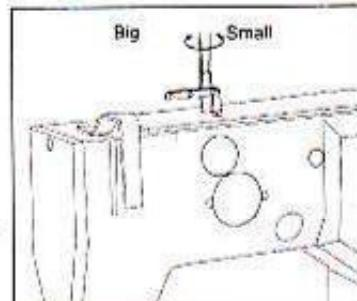

Fig.15
23. The presser foot pressure adjustment (Fig.15)
- 2) Adjustment as shown in Fig.15.